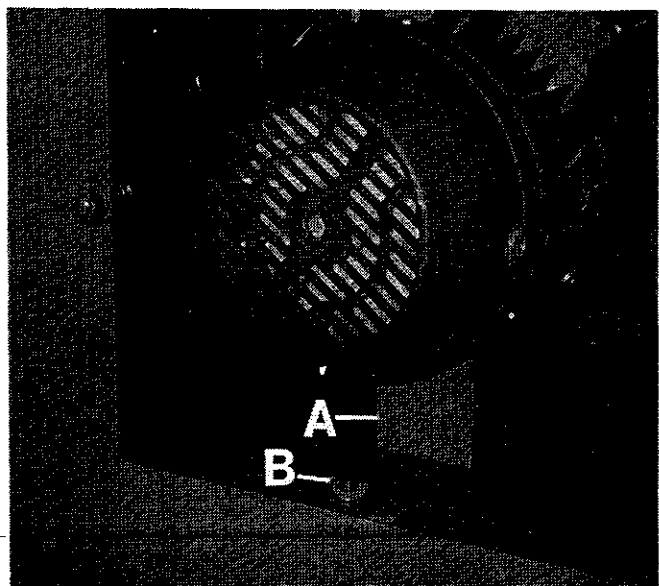

FIG.35.
4. Move motor support bracket "A", FIG.35 to position shown then lower motor by rise and fall handwheel until motor rests on bracket "A" as shown.
6. When belts are on required pulleys, left motor by rise and fall handwheel then swing motor support bracket "A", FIG.35, round clear from motor and secure in position against door frame by wingnut "B".